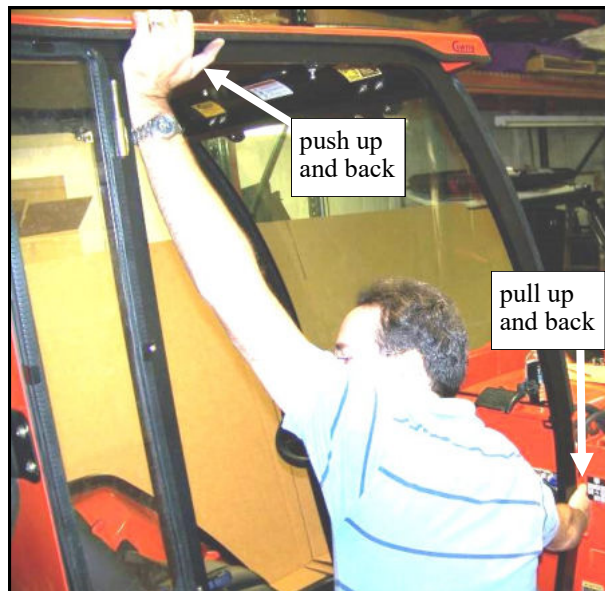
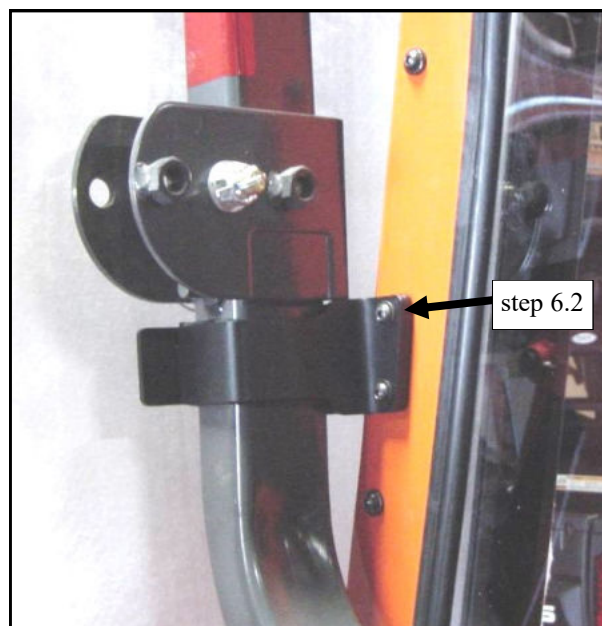

Fig. 6.1 (view of right side of tractor)
Fig. 6.1a (view of left side of tractor)
6.1 See page 16 for left versus right hand parts. If installing a standard cab, have an assistant lift up on the back of the side frames (see fig. 6.1) and pull the front back when installing the roll bar brackets. This will keep the cab from sagging towards the back and rotating forward which can create an interference with the loader mounting brackets. Per figure 6.1a, install the lower roll bar brackets using the following hardware per side of the tractor: two 5/16 x 1-1/4" long button head bolts, two steel washers and two flange locknuts. The bolt heads should be towards the front of the vehicle (especially for soft rear curtain applications). Note: the photo shows a hard rear panel in place. A standard cab bolts up the same way but with one less thickness of sheet metal to sandwich. Do not tighten the bolts.